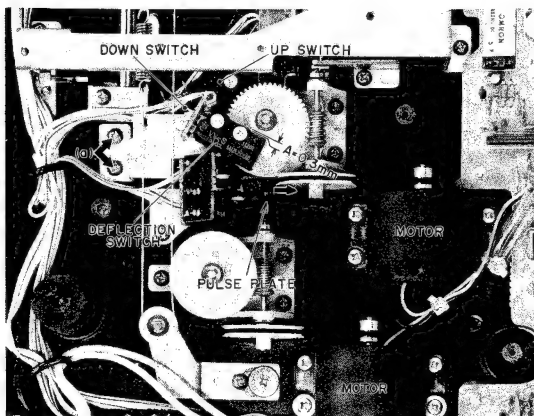

Fig. 21
ADJUSTMENT (Refer to Figs. 21, 22)
- 13) Turn the pulse plate clockwise (in the arrow direction shown in Fig. 21) by about 5 mm with your finger, and check that the pulse plate returns to its original position. If the pulse plate does not return, repeat from Step 4).
ADJUSTMENT (Refer to Fig. 21)
- 2) The clearance A (Fig. 21) should be about 0.3 mm at this time.
- 3) It can be adjusted by loosening the screws (a) in Fig. 21.